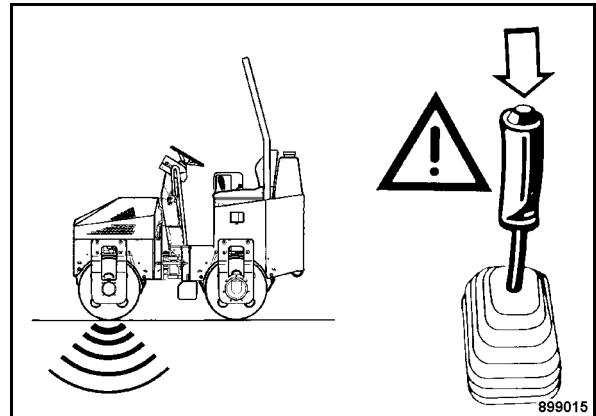

Fig. 32
- If the vibration starts to run after starting the engine, press the vibration push button (Fig. 32) immediately to switch the vibration off.